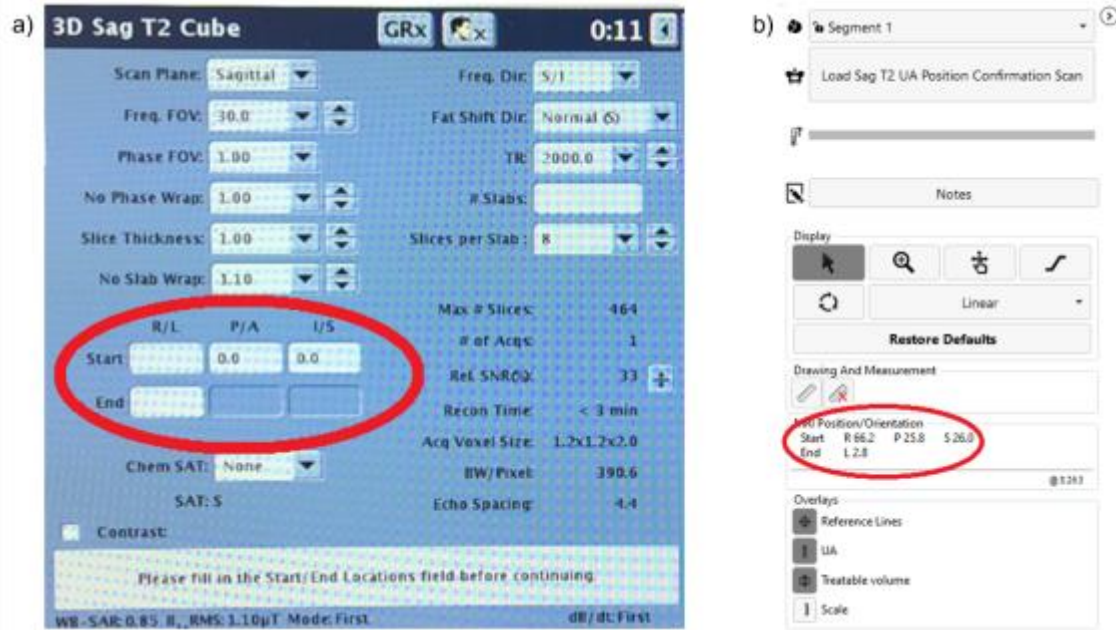

Figure 36: Manually prescribing Start/End Location coordinates for confirmatory SAG T2 scan
- b. MRI Technologist: For the new SAG T2 scan, manually input the **Start / End Location** coordinates displayed in Coarse Planning on the TDC (Figure 36). Acquire the scan and send it to the TDC.